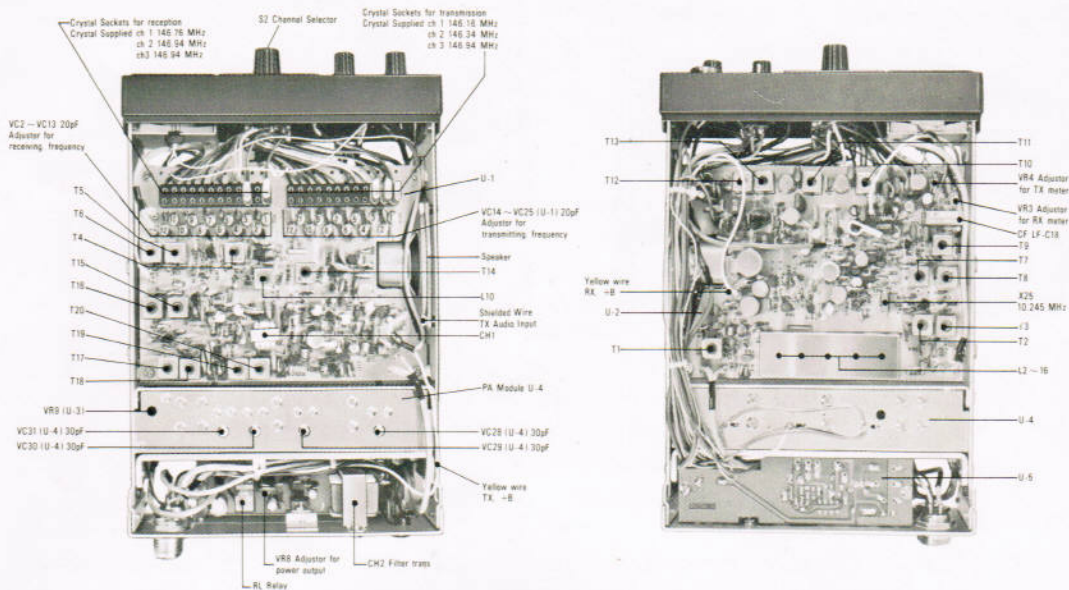

Figure 1
Trimmers have been placed on the crystal board to assist you in adjusting new crystals on frequency. Consult the trimmer location chart (Fig. 1) for their positions.
- d. To align the transmitter on a desired frequency, switch the channel control to the desired channel. Slowly adjust the trimmer capacitor for that channel until the desired frequency is achieved. Consult Fig. 1 for the location of the proper trimmer. These trimmers should be adjusted very slowly while the transmit frequency is observed on suitable measuring equipment. Another 13-500 equipped with a discriminator meter can serve well for this purpose. However it must be adapted.
- e. When setting the receiver to a desired frequency, a discriminator meter should be connected to Accessory plug and the receiver trimmer capacitors adjusted to cause the S meter to read a maximum and the discriminator meter to read zero. Refer to Fig. 1 for the location of the proper trimmer corresponding to the channel to be used. Adjust these trimmers very slowly while observing the discriminator meter. Another 13-500 operating on the desired frequency can be used for this purpose also.